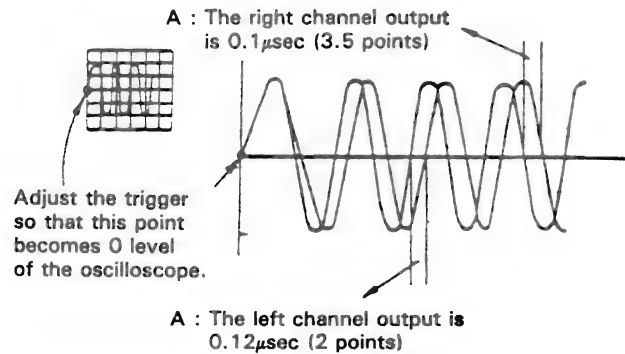

Figure 2-9
4. Adjust the oscilloscope to obtain the output waveform as shown in Fig. 2-9.
5. Adjust R6386 (right channel control) and R6376 (left channel control) so that the part A of output waveform is as shown in Fig. 2-9.